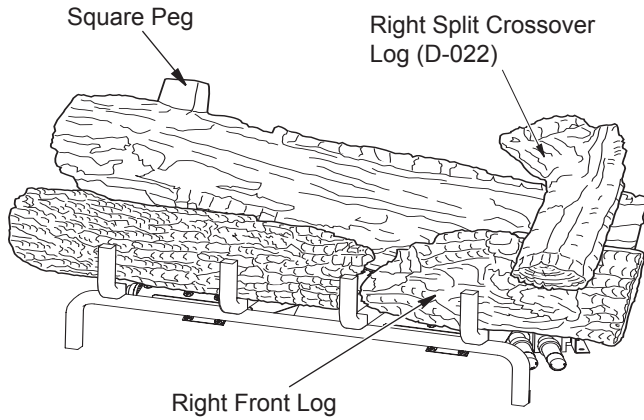

Figure 23 - Installing Right Split Crossover Log
- Find the right split crossover log (D-022). The bottom of the log has a rectangular stand off that fits in the slots on the right side of the front right log and the middle split log. Place this log as shown in **Figure 23**.